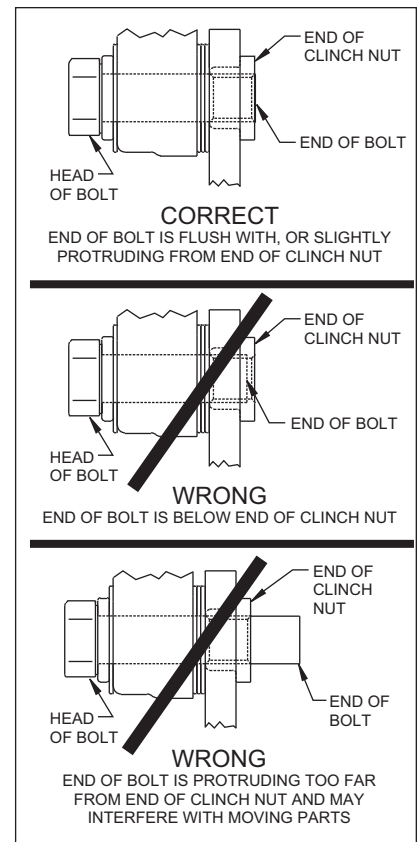

Figure 4.
- Pack the small outer bearing cone (9) with high temperature disc brake bearing grease and install into front of hub (4). Slide the hub/rotor assembly (4 and 7) with outer bearing cone (9) onto the spindle. Secure using stock washer, adjusting nut and nut locking device. Adjust bearings per Original Equipment Manufacturer (OEM) specifications.
- Install the dust cap (10) onto the hub (4). Friction created by the o-ring (11) on the dust cap (10) keeps it from unscrewing. The O.D. of the existing spindle washer may be larger than the I.D. of the dust cap (11) not allowing it to seat against the hub face. Some grinding on the washer O.D. may be necessary to clear the I.D. of the dust cap (10).
- NOTE:** Please reference the caution statement at the beginning of the assembly instructions. With the bleed screws pointing up, mount the caliper (12) onto the caliper bracket (1) using washers (13) and bolts (14). Finger tighten. View the rotor (7) through the top opening of the caliper (12). The rotor (7) should be aligned in the center of the caliper (12). If not, adjust the caliper (12) by using 0.032 inch thick shims (15) placed between the caliper mounting bracket (1) and the caliper (12). Use as many shims as necessary to obtain the correct alignment. Finger tighten. **NOTE:** The end of the bolt must be flush with or slightly protruding from the head of the clinch nut. See Figure 4. Place spare shims (15) between washer and caliper mounting ear to achieve the proper mounting fastener